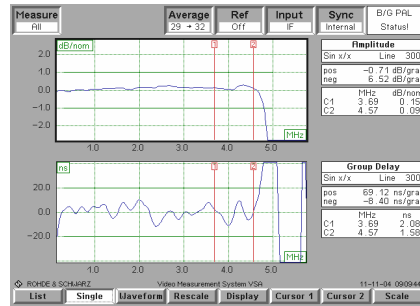

Fig. 10
- ❑ Configure the module with **Precorr on** and calibrate **R39**, **R54**, **R73**, **R88**, **R44**, **R59**, **R78** and **R91** to obtain the desired group delay mask, if needed calibrate **R32**, **R45**, **R63**, **R81**, **R37**, **R50**, **R68**, **R86** and **C49** to make the passing band flat; in case this cannot be done in the base band (the video parameters analyser has no group delay mask for the required standard) the calibration of the IF pre-corrector can be made using the AM receiver set with the trap on the audio carrier enabled, equalising the group delay in order to make it flat as in Fig.10 (thus automatically compensating the trap on the audio carrier of the receiver).